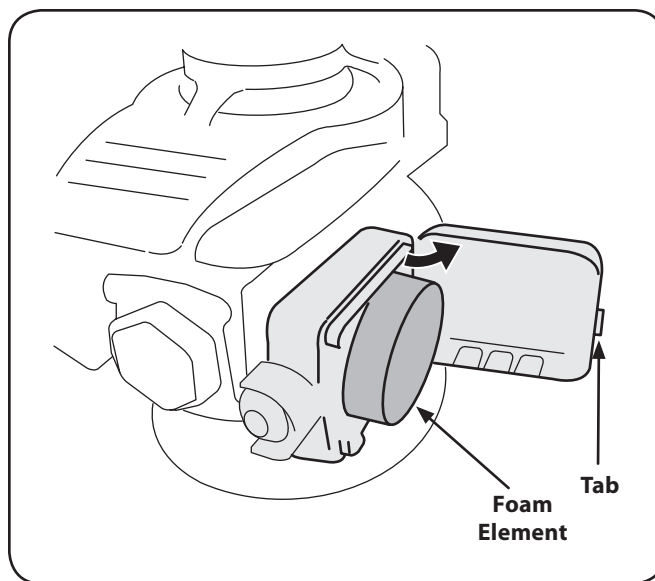

Figure 6-4
1. Remove the air filter cover by squeezing the front and back sides to release the tab at the front of the air filter cover. See Figure 6-4. Clean foam element or replace when damaged.